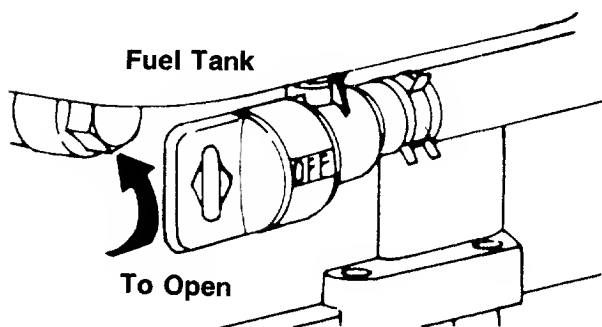

FIGURE 19.—Models 109R, 116R and 119R
2. **Models 109R, 116R and 119R only:** The fuel shut-off valve is located beneath the fuel tank. The fuel shut-off valve should be in the open position. See figure 19. Open fuel shut-off valve if it is closed.